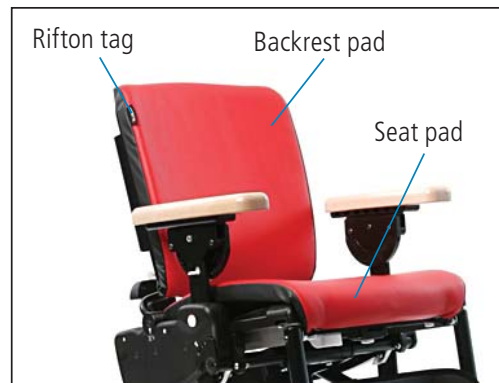
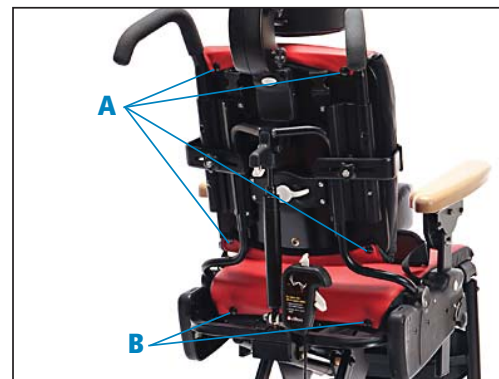

Figure 8b
Figure 8c
Backrest pad has a cloth tag marked Rifton (see Figure 8b) and is snapped onto studs (A) located behind top and bottom edge of backrest (see Figure 8c).